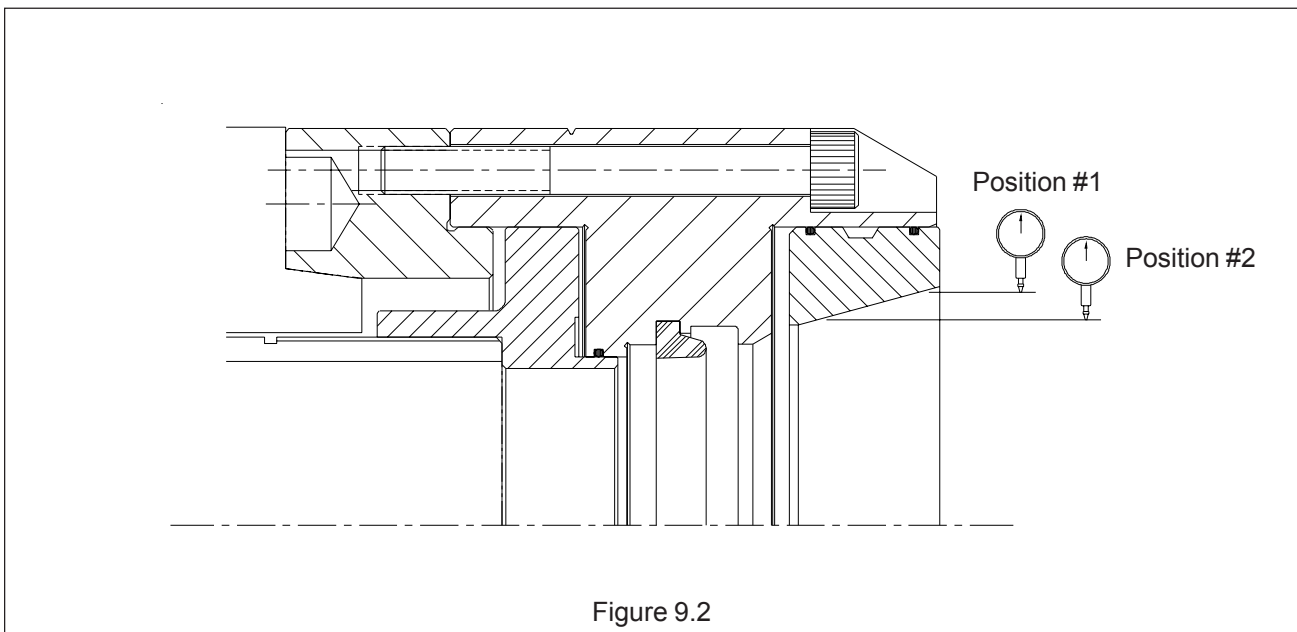
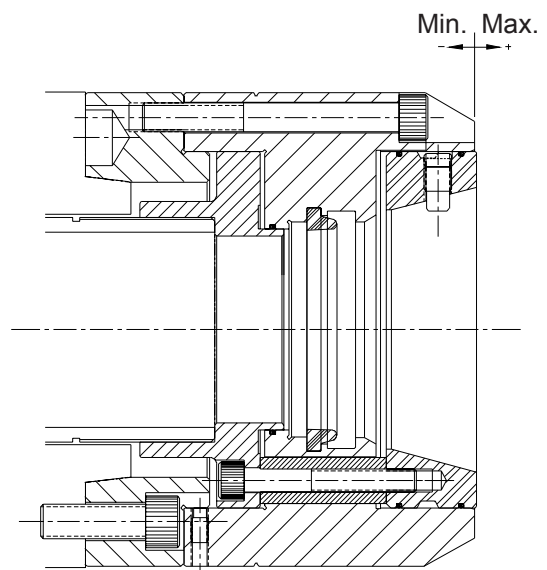

Figure 9.2
Figure 9.3
3. Make certain that the mounting surfaces of the chuck body and adapter plate are clean and free of nicks or burrs that could prevent the proper seating of the chuck body. Also make sure the (4) radial adjusting screws (item #20) are not protruding into the locating diameter of the chuck body.
7. Indicate the ID runout of the collet taper as shown in position #1 in figure 9.2. Make adjustments to the (4) radial adjusting screws so that the runout of the collet taper is within .0001" (0.0025mm).
8. Before tightening the mounting bolts, measure the runout of the collet taper on position #2 in figure 9.2. If the chuck body is properly seated on the adapter plate, the runout measured on position #2 should be the same as position #1. If the runout measured in position #2 exceeds the runout of position #1 by more than .0001" (0.0025mm), remove the chuck body from the adapter plate and repeat this mounting procedure.
9. After the runout of the collet taper has been adjusted, tighten the mounting bolts to the torque specifications given on page 7. Also make sure to tighten all (4) radial adjusting screws.
10. Actuate the draw tube to verify that the chuck is functioning correctly by measuring the stroke of tapered sleeve as shown in figure 9.3.